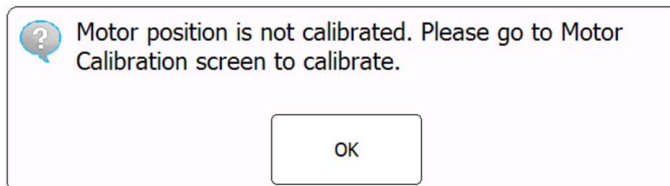

Figure 43 Notification when motor position is not calibrated
A motor calibration (MC) is a procedure that designates the location of each well that is scanned by the optical modules for each individual slot. Instruments are provided with the motor calibration step completed, and additional motor calibration runs are not generally required after receipt of the instrument. If, however, you see a notification on the instrument touchscreen alerting you that motor calibration is required (Figure 43), press **OK**, then follow the on-screen prompts.